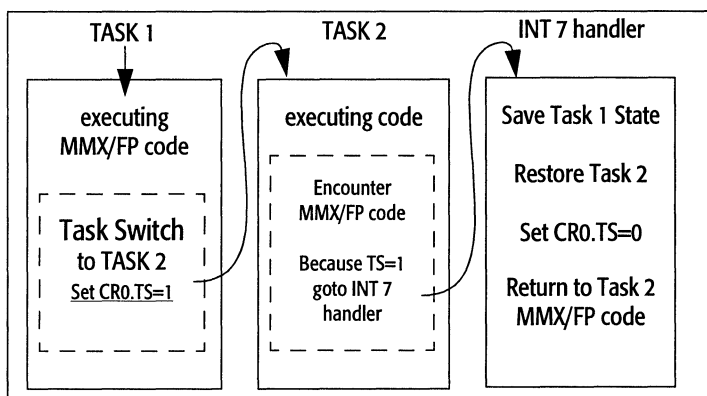

FIGURE 2-2. Preemptive Task Switching
In a preemptive multitasking operating system, if a task switch occurs, the operating system sets the Control Register 0 (CR0) Task Switch (TS) bit to 1. If the new task encounters a floating-point or MMX instruction, an interrupt 7 (int 7, Device Not Available) is generated. The int7 handler saves the state of the first task and restores the state of the second task. The int7 handler sets the CR0.TS to 0 and returns to the original floating-point or MMX instruction in the second task. Figure 2-2 illustrates this task switching process.